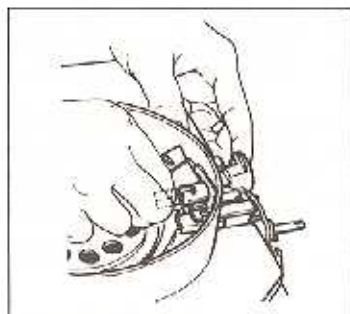

Fig. 22.
- (1) Remove the body following the exchange procedures of wick steps (1) to (5).
- (2) Take out the glow plug by pushing the ignition button with the right hand. Use left hand to turn glow plug to left while pushing in slightly to remove it. (Fig.22)